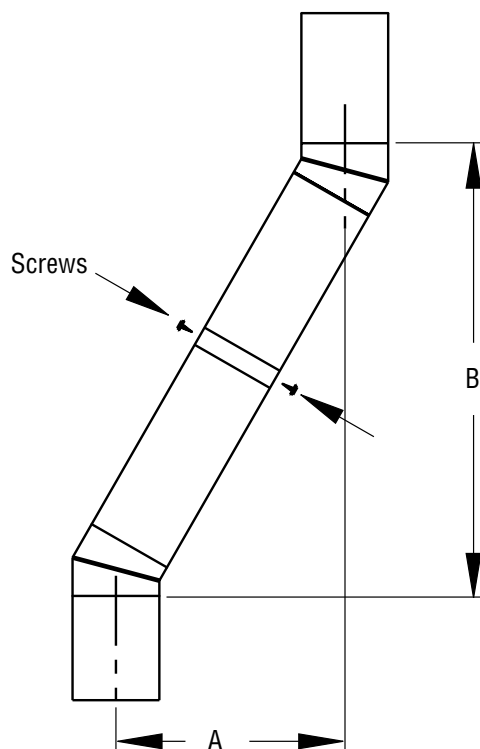

Figure 10 - Elbow Offset
Continue to assemble chimney sections as outlined above, making sure that both the inner and outer pipe sections are locked together. When installing double wall snap-lock chimney together, it is important to assure the joint between the chimney sections is locked. Check by pulling chimney upward after locking. The chimney will not come apart if properly locked. It is not necessary to add screws to keep the chimney together (exception, see Figure 10, page 10).
1. To achieve desired offset, you may install combinations of 12", 18", 24", 36" and 48" length of double wall pipe (see offset chart and Figure 10).
4. All pipe connections between the offset and return must be secured with two screws on the outer pipe only (see Figure 10). Do not penetrate the inner stainless.